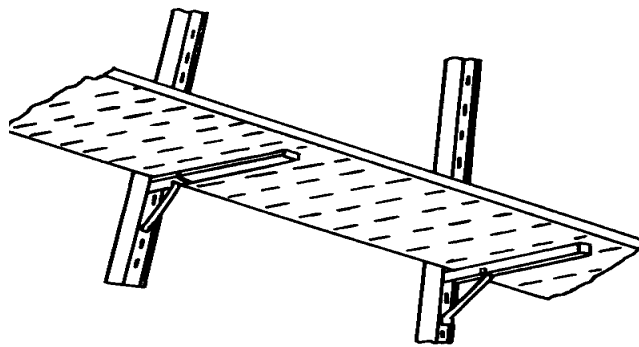

Figure 9.
2. Brackets bolted to unistrut which is fixed to the surface. See Figure 9.